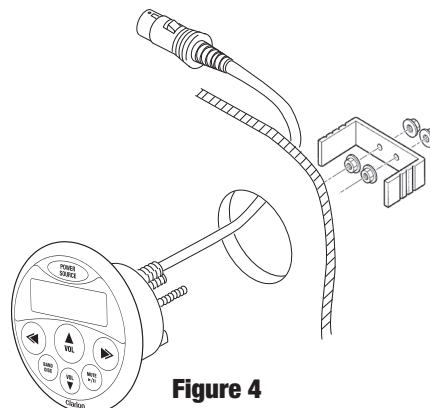

Figure 4
2. Insert remote control into mounting hole (Figure 4).